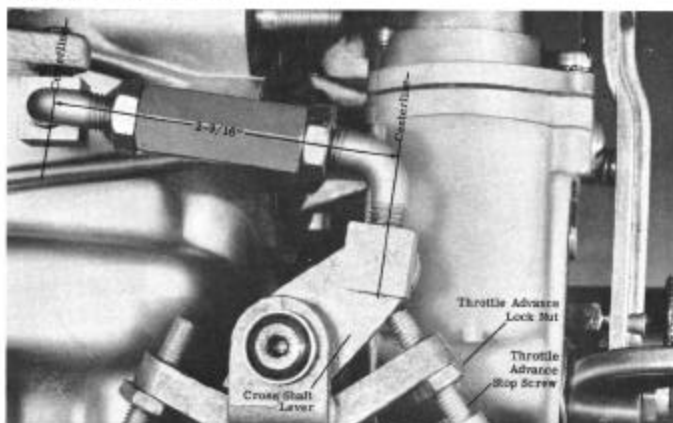

Figure 3.
C. Throttle Control Linkage Setting (Figure 3)
D. Spark Advance (Figure 3)